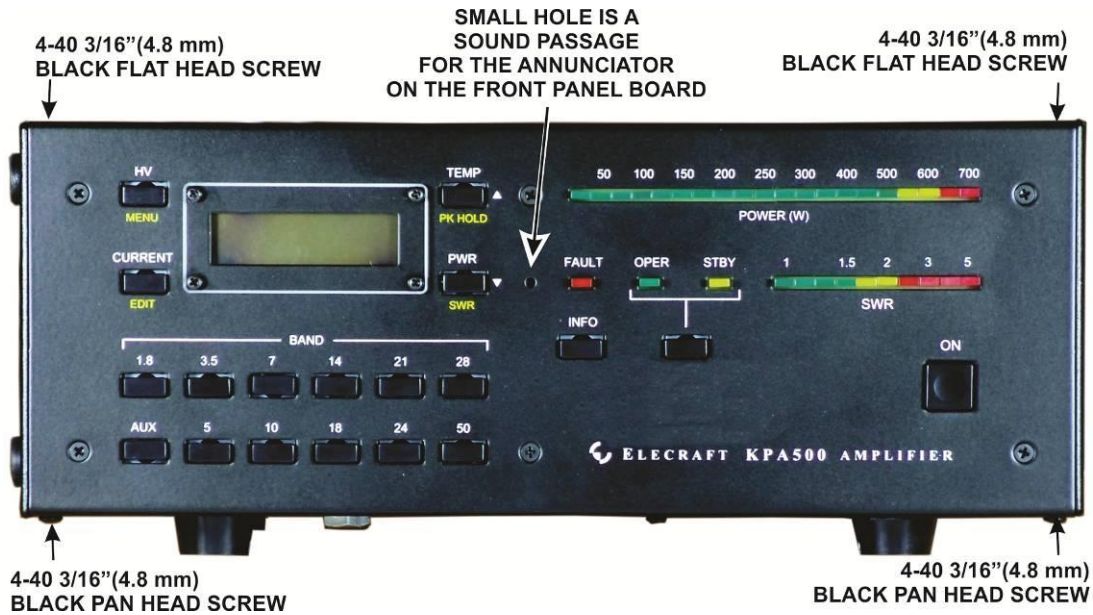
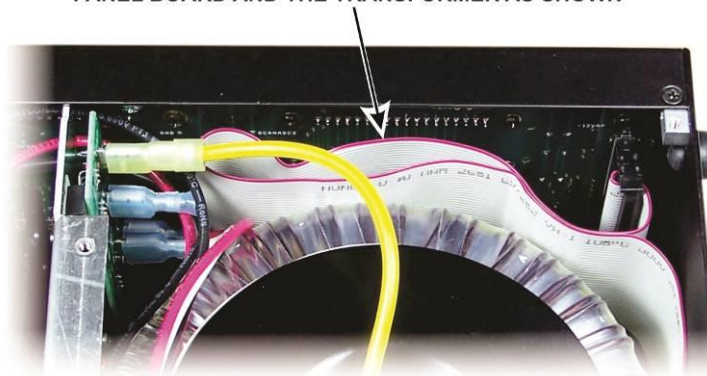

Figure 60. Mounting the Front Panel Assembly on the KPA500.
Figure 61. Routing Long Ribbon Cable.
□ Mount the front panel assembly on the KPA500 as shown in Figure 60. If the wide ribbon cable is longer than necessary, loop it back and forth behind the front panel board in the space directly in front of the power transformer as shown in Figure 61. The front panel fits between the side panels. If the fit is too tight, loosen some of the screws near the front on the side panels, particularly on left side panel since it is less rigidly held in place. Be sure to tighten all the screws after the assembly is in place.